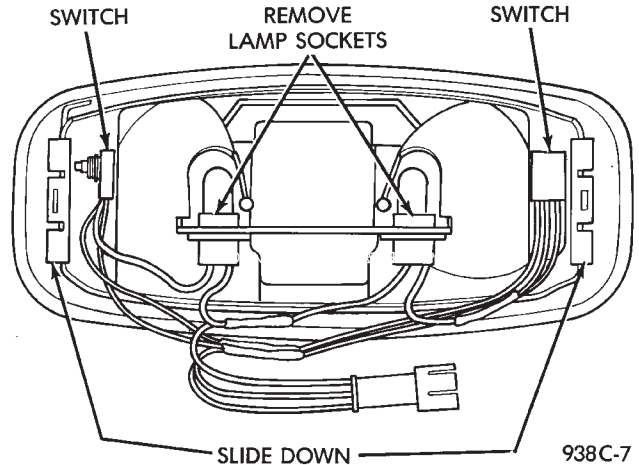

Fig. 8 Wire Harness Removal
- (1) Remove overhead console, refer to above procedures.
- (2) Disconnect wire harness connector (Fig. 8).
- (3) Remove lamp socket from mounting.
- (4) Remove switches by sliding them out of position.